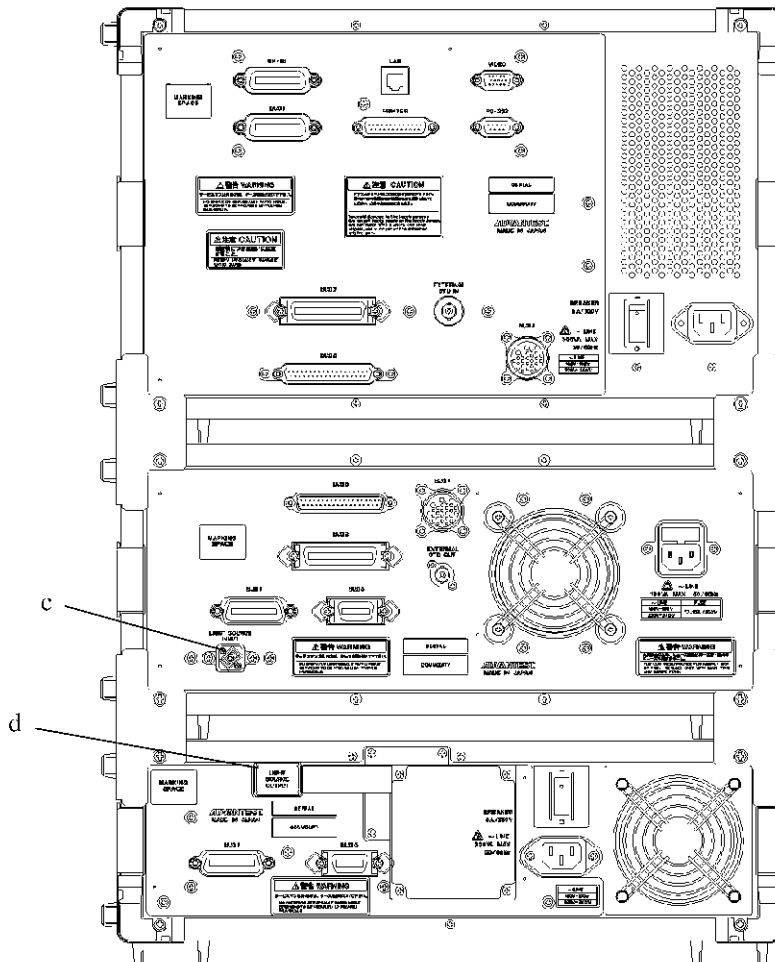

Figure-5 Position of Laser Apertures on the Rear of the Q7761
4. Never attempt to emit a laser beam when no optical fiber cord output from the Q7761 Light Source Unit is connected with the Light Source Input connector on the rear of the Q7761. (see "c" and "d" of Figure-5)